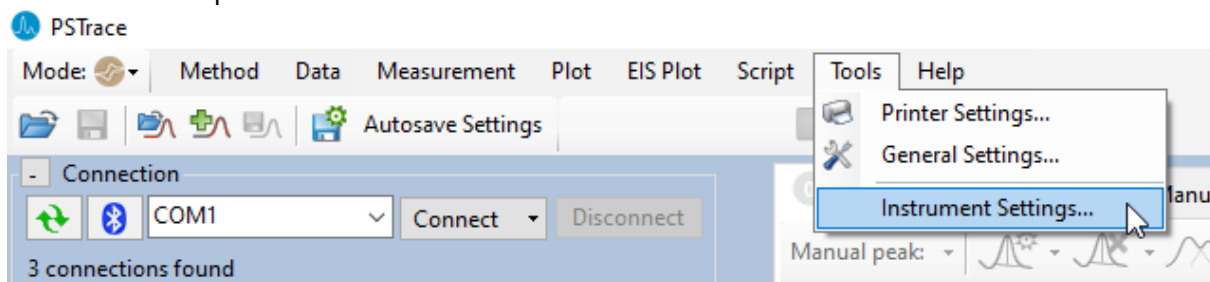
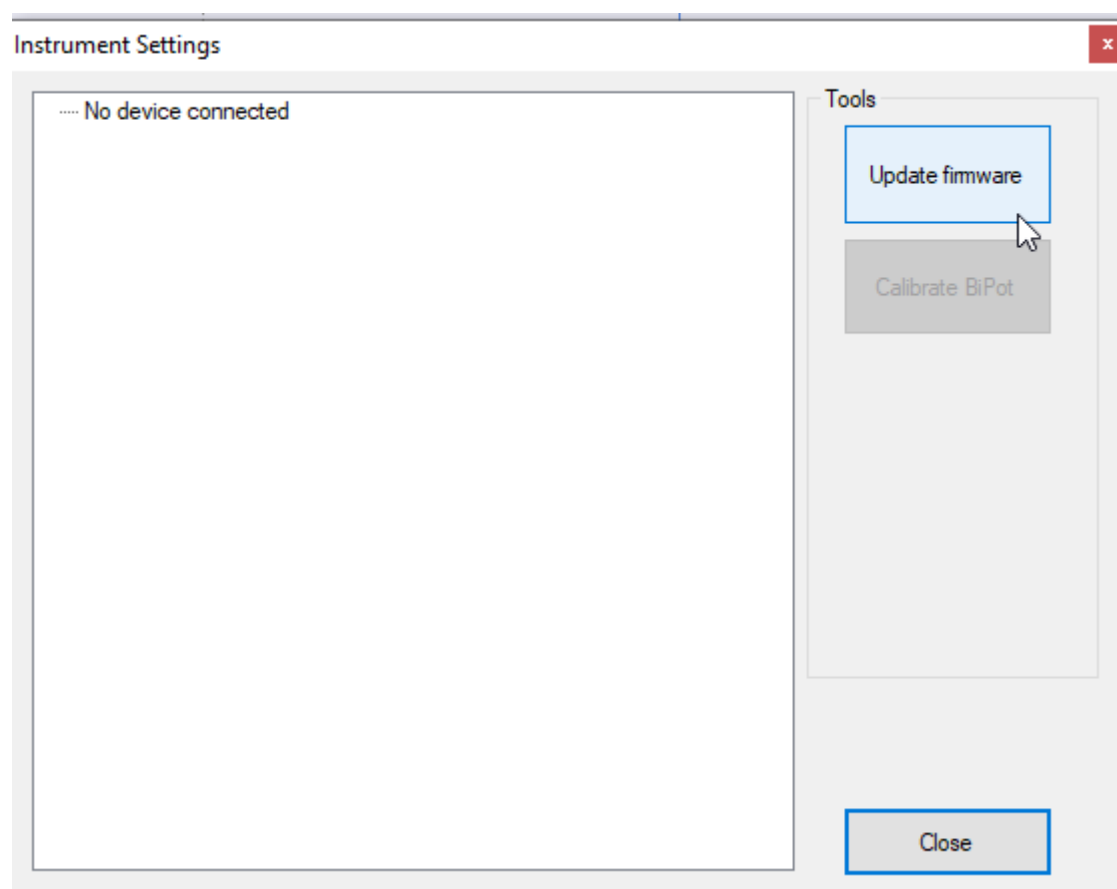

Figure 2: Instrument settings
Figure 3: Update firmware
- Go to the “Update firmware window”, see “Figure 2” and “Figure 3”.